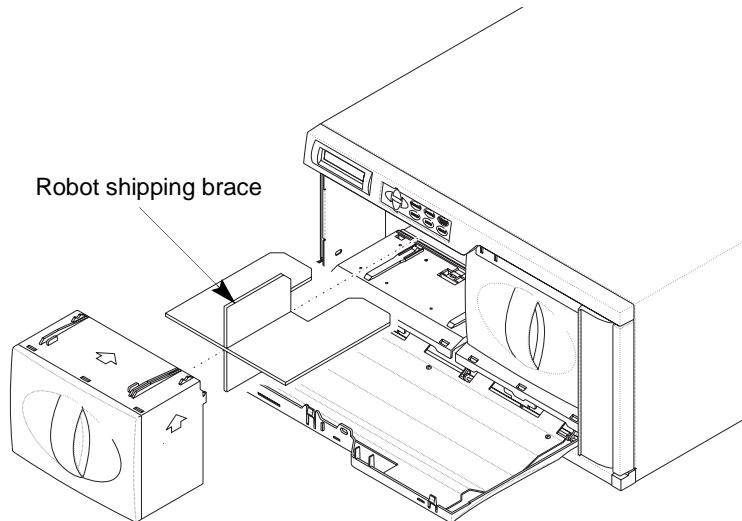

Figure 9-3 Installing the robot shipping brace in the magazine
- b. Place the robot's shipping brace inside the magazine so it is centered vertically and horizontally, as shown in Figure 9-3.